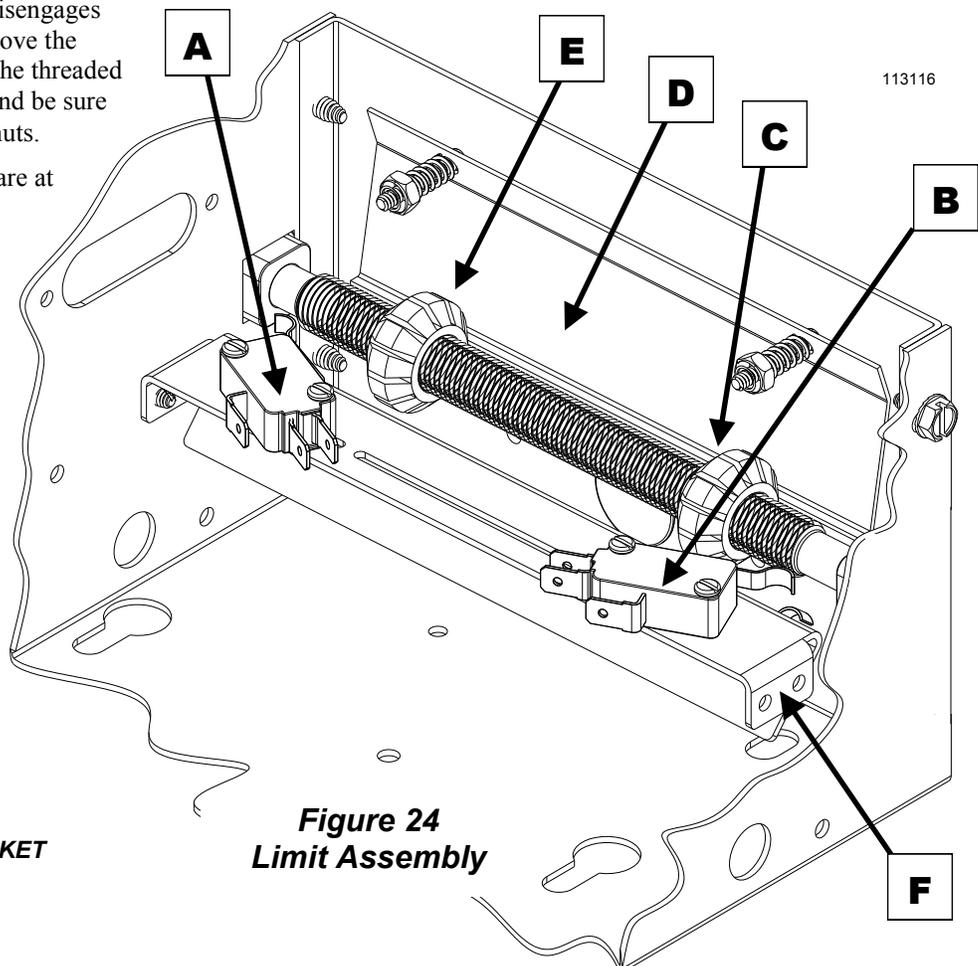

Figure 24
1) With the cover open on the electrical enclosure, reference Figure 24 below. There are two (2) switches (A and B) mounted to the 'V' bracket (F). The switches are activated by the two limit nuts (C and E) on the threaded shaft which move laterally along the shaft as the operator opens and closes the door. When a limit nut nears the end of the shaft it activates a switch, that send a message back to the motor control board to stop the door. Follow step 2 or 2a depending on how the door and trolley are currently orientated.
2) For original installation setting, the door and operator trolley should be positioned just shy (approximately 4 inches) of the fully closed position. If this is the case, depress the Limit Nut Retention Plate (D) so it disengages from the slots in the limit nuts and move the Close Limit Nut (E) on the shaft until it engages the Close Limit Switch (A), see Step 5 for an explanation of the Close Limit function. You will need to listen for an audible click. Depress the Limit Nut Retention Plate (D) so it disengages from the slots in the limit nuts and move the Open Limit Nut (C) to the center of the threaded shaft. Release the retaining bracket and be sure that it engages in slots of both limit nuts.